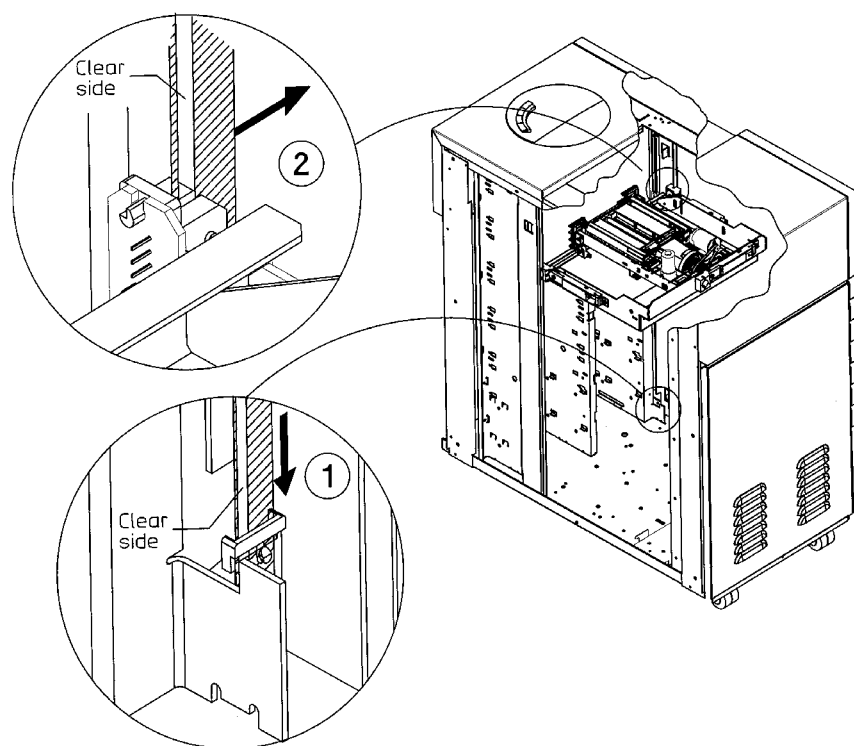

Figure 31: Releasing the Lower End of the Vertical Encoder Strip
3. Unhook the encoder strip and hang it out of the way (see Figure 31).